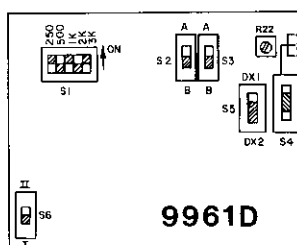

figure 2. Switch locations
3.03 No alignment of the 9961D subassembly is required. Before the subassembly is placed into service, however, six option switches must be set. Locations of these switches on the subassembly are shown in figure 2.